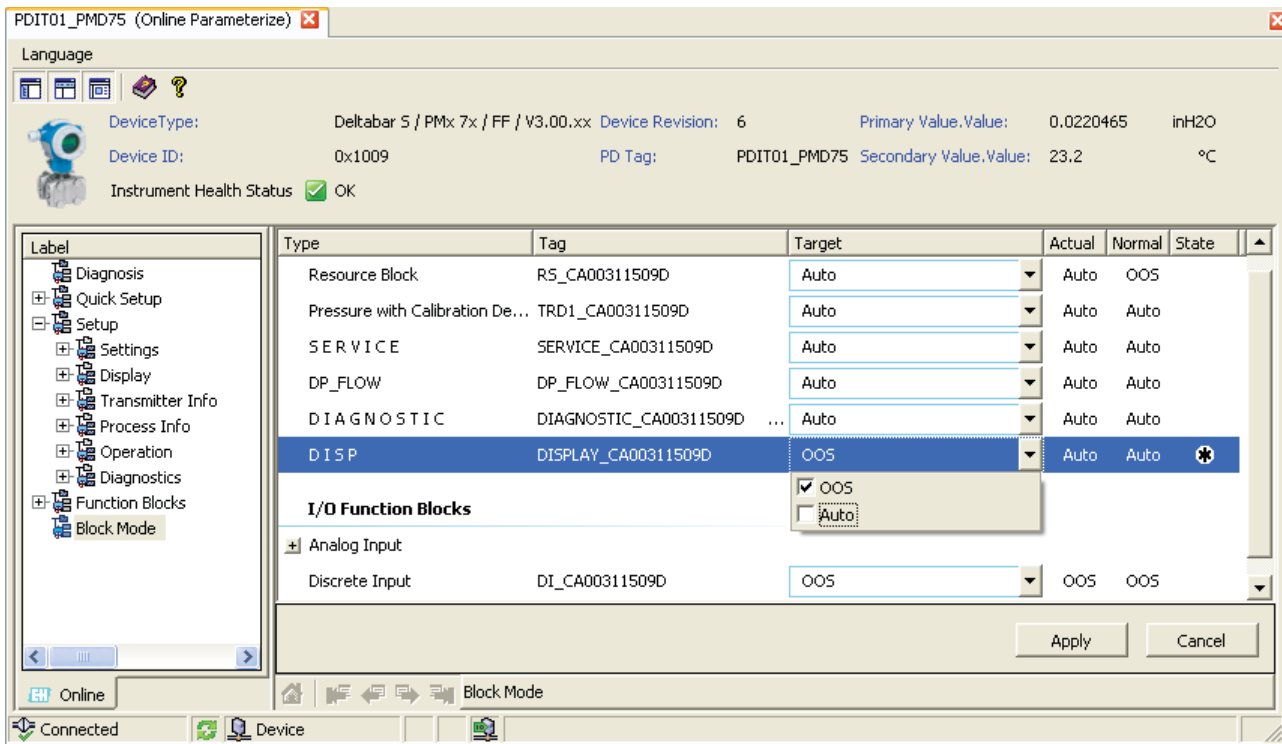

Figure 2-12. Changing DISP block mode.
14. Select *Block Mode* in the parameters tree. Change the *DISP* (display transducer block) *Target* mode to *OOS* as shown in Figure 2-12. Click *Apply* to confirm your choice. The *Actual* mode should change accordingly within a few seconds.